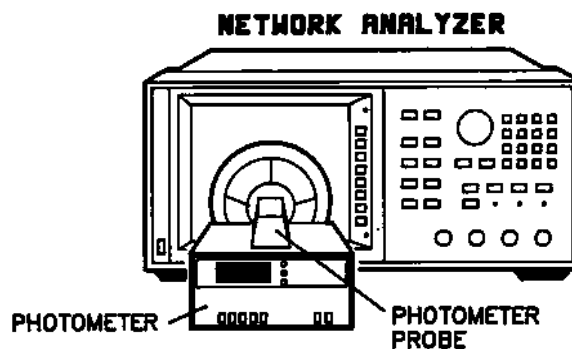

Figure 5-8. Minimum Intensity Adjustment Set-up
2. Center the photometer on the analyzer CRT as shown in figure 5-8. Adjust the analyzer front panel knob until the photometer registers 20 cd/m² NITS (15 cd/m²) of output light if the glass bezel assembly is *not* installed. Adjust for 12 nits (9 nits) if the glass bezel *is* installed.